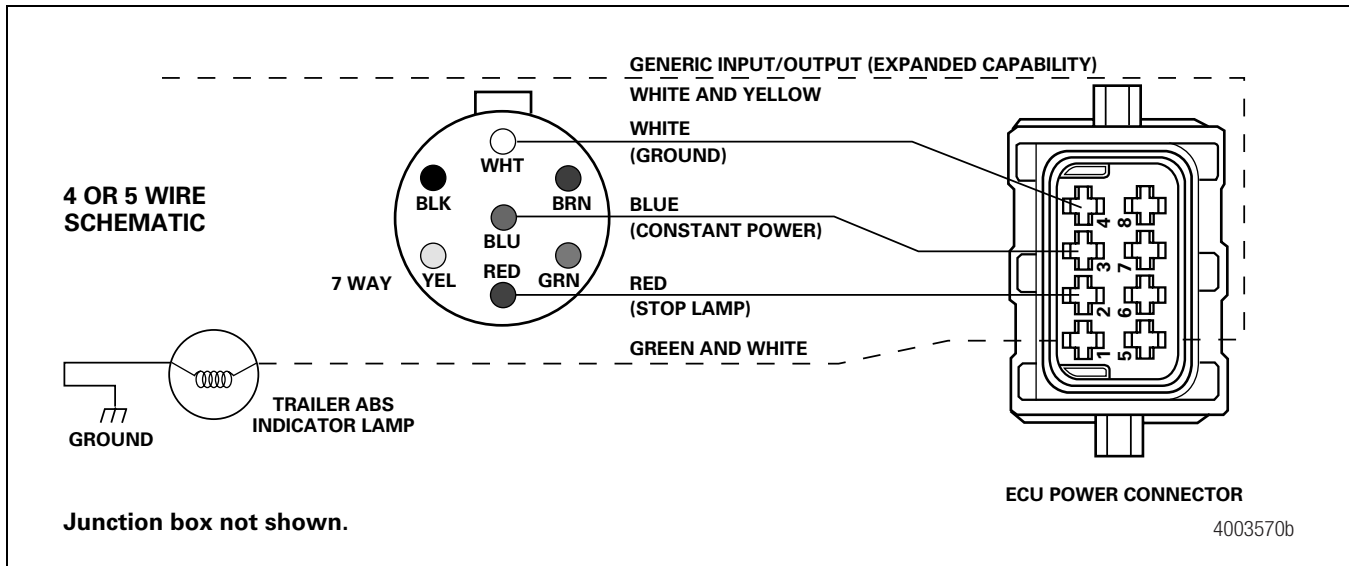

Figure 10
- **For industry-standard connector cables:** Attach the power cable to the harness on the trailer. Figure 10.
- **For an optional blunt-cut power cable:** Wire the cable and ABS indicator lamp to the seven-way connector on the trailer according to the following diagram. Figure 10.